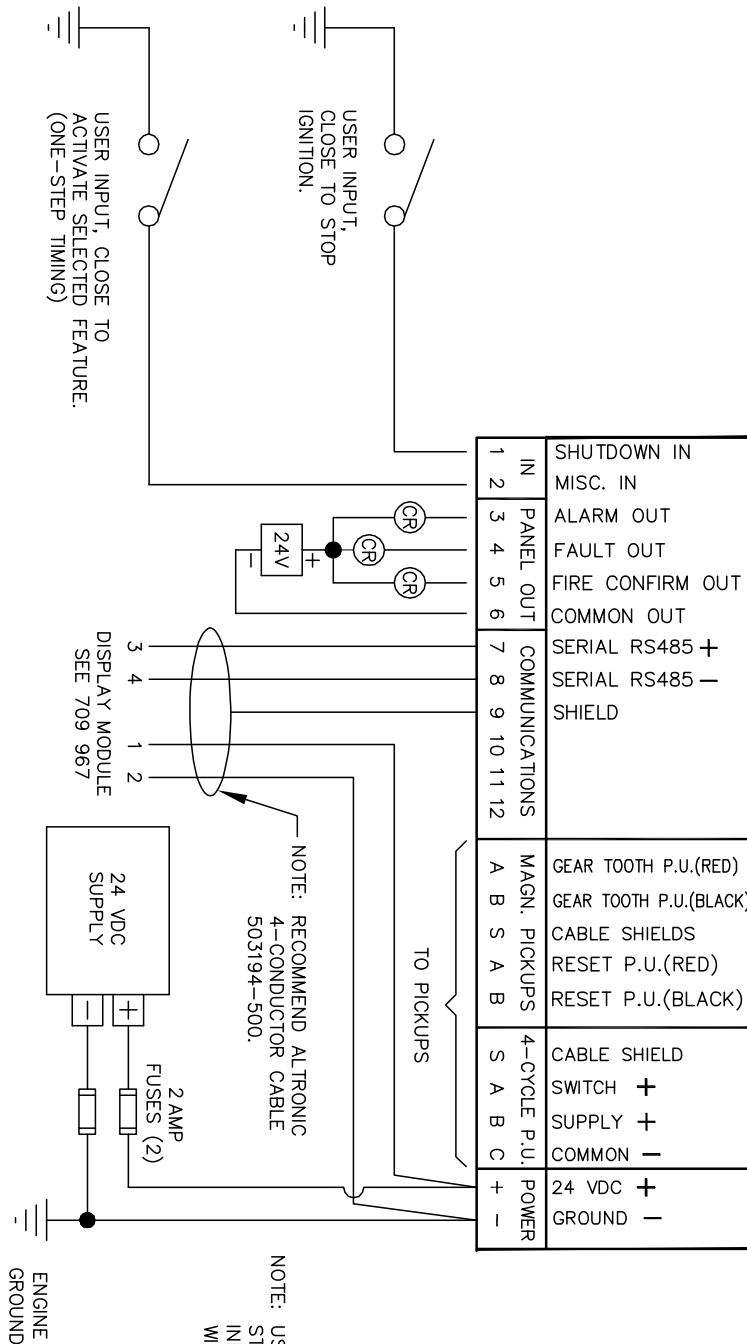

FIG. 13 WIRING DIAGRAM, DISPLAY MODULE
- FIG. 13 WIRING DIAGRAM, DISPLAY MODULE (791909-1)**